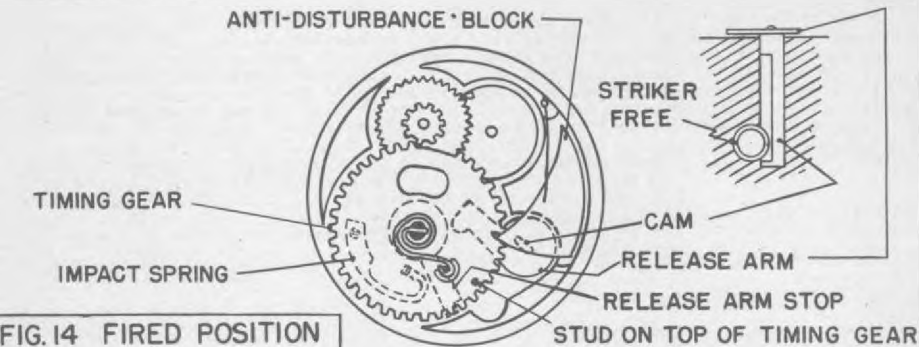

FIG.14 FIRED POSITION
(3) Should the fuze now be subjected to handling, shock, or vibration, the projection on the anti-disturbance block and the stud above the timing gear would become disengaged. The timing gear can thus make its final run, this time until its blank segment permits it to slip by the small gear (with which it was previously engaged) with increased momentum. During this last swift movement, the stud under the timing gear strikes the release arm stop, moving it away from the release arm, and the spring-loaded striker can now rotate the release arm cam as the release arm is freed. The cam is forced around in a clockwise direction, permitting the striker to slip by and fire the detonator cap, initiating the booster, as in Fig. 14.
**REMARKS:** There are no markings on the fuze to identify it, and when fitted into the bomb, it can not be distinguished from the M 130 fuze. This fuze is so sensitive that the vibration caused by an aircraft propeller nearby may be sufficient to release the anti-disturbance block and fire the fuze. This fuze is copied from the German (70)B, Butterfly fuze.